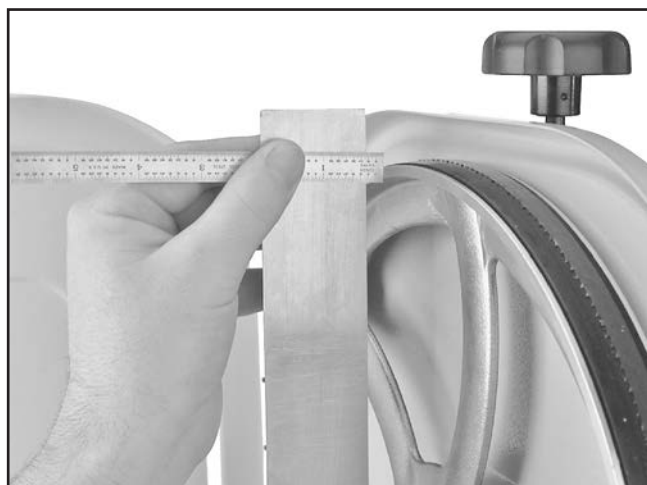

Figure 111. Example of measuring the distance to shim the wheel to be coplanar.
3. With coplanarity gauge touching both rims of wheel that does not need to be shimmed out, measure distance away from other wheel with a fine ruler (see **Figure 111**). The distance measured with ruler is distance this wheel must be shimmed.